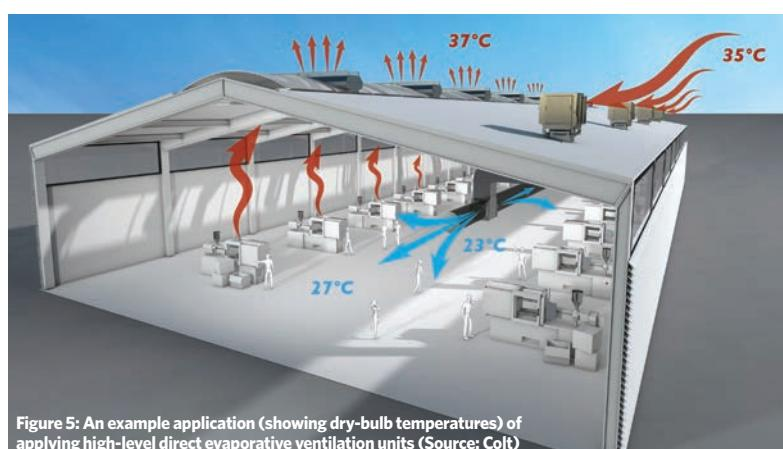

Figure 5: An example application (showing dry-bulb temperatures) of applying high-level direct evaporative ventilation units (Source: Colt)
5. In the example illustrated in Figure 5, what is the difference in the dry-bulb temperature between the inlet of the ventilation unit and the factory floor?